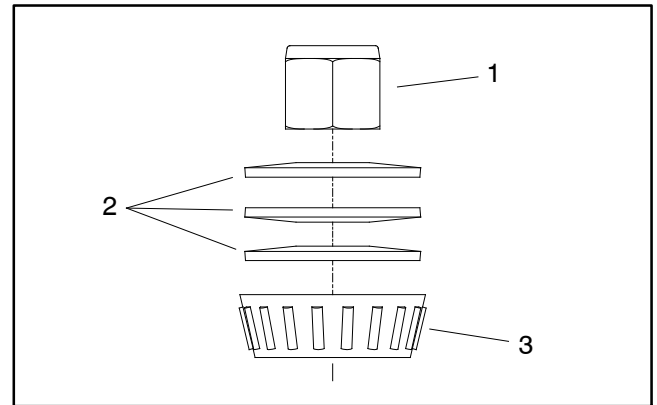

Figure 14
4. Remove grease cap (item 1) from carrier frame. Discard cap.
6. Remove three (3) belleville washers and upper bearing cone from carrier frame. Note orientation of washers as they are removed (Fig. 14). Belleville washer orientation is critical for proper castor wheel movement.
4. Slide castor fork up through carrier frame taking care to not damage seal. Position grease packed bearing cone onto castor fork. Place three (3) belleville washers onto castor fork noting orientation shown in Figure 14.